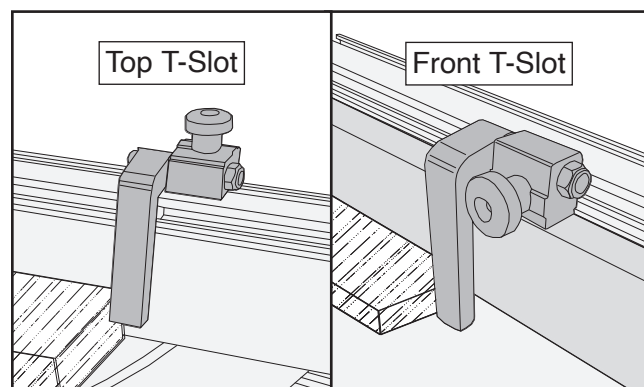

Figure 20. Flip stop adjusted to edge of workpiece.
To adjust the flip stop position, loosen the flip stop knob, move the stop so the arm is against the edge of the workpiece (see **Figure 20**), then tighten the knob to secure.
The flip stop is set up in the top fence T-slot (for use with the existing fence face) or it can be configured for use in the T-slot at the front of the fence (for use with a $\frac{3}{4}$ " deep sacrificial fence) (see **Figure 20**).
2. Insert flip stop T-bolt into front fence T-slot, then tighten knob to secure (see **Figure 20**).